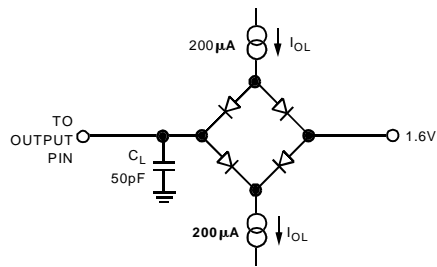

Figure 3. Load Circuit for Access Time and Bus Relinquish Time
- 12 Measured with the load circuit of Figure 3.